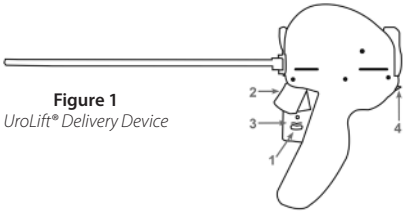

Figure 1
The UroLift Delivery Device (**Figure 1**) is designed to access the prostatic urethra and deliver one UroLift Implant through the lobe of the prostate.
- 1.7 Inspect device tip and confirm that needle is not visible. Inspect Needle Safety Lock (**Figure 1**) and confirm that it is in the locked (forward) position.